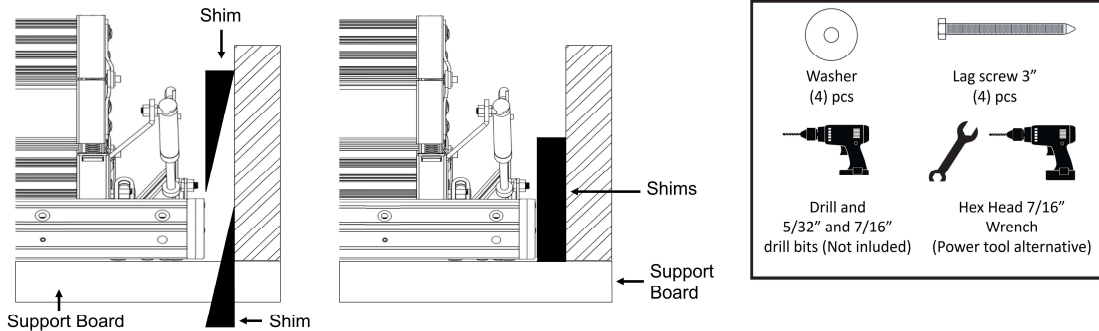
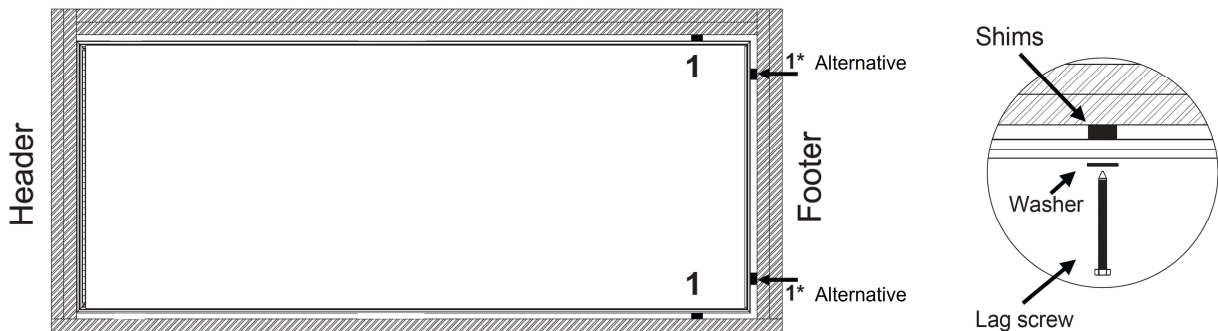
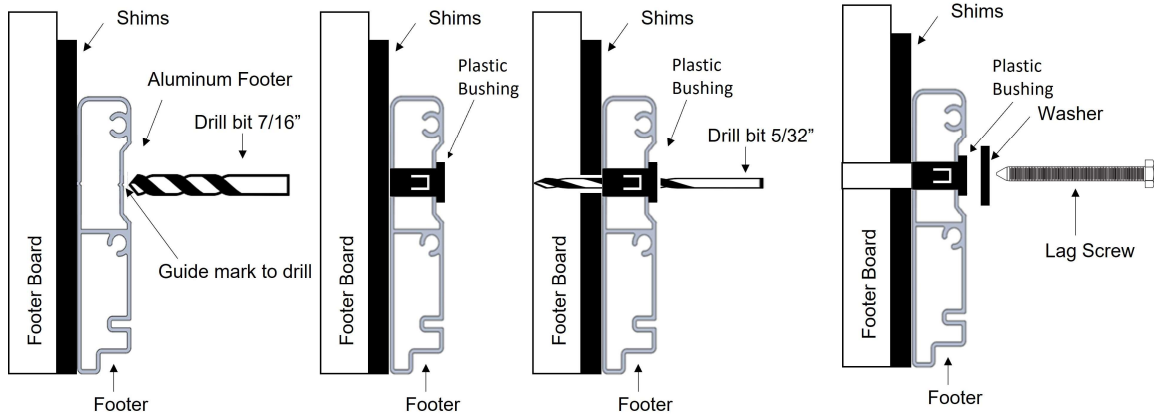

FIGURE 17 : SHIMMING SIDE FRAME.
FIGURE 18 : DRILLING AND SECURING PILOT HOLES AT SIDE
FIGURE 19: ALTERNATIVE INSTALLATION (SEE NOTE ON SECTION N)
N. Installer #1 and #2: Place shims from above and below (See **Figure 17**) at the 2 pre-drilled holes at position 1 indicated in **Figure 18**. The shims should provide uniform support so there is no twisting or bowing of the aluminum frame. Drill 5/32" diameter by 3" deep pilot holes into the ceiling joist through the bushings at position 1. Install the two lag screws to secure the attic ladder side frames.
If using the alternative position: Drill 2 holes using 7/16" drill bit from the inside of ladder **only through aluminum footer profile** (See **Figure 19**) and centered at the location you placed the footboard shims in Section J. **At this point the footer shims will become a necessary permanent part of the installation.** Next, install plastic bushings following the same procedure as in Section B. See **Figure 18** and **Figure 19**. Then, drill 3" deep pilot holes through the bushings, shims and into the ceiling joists. Finally install two lag screws and two washers at each footer location to secure the attic ladder. (See **Figure 19**)